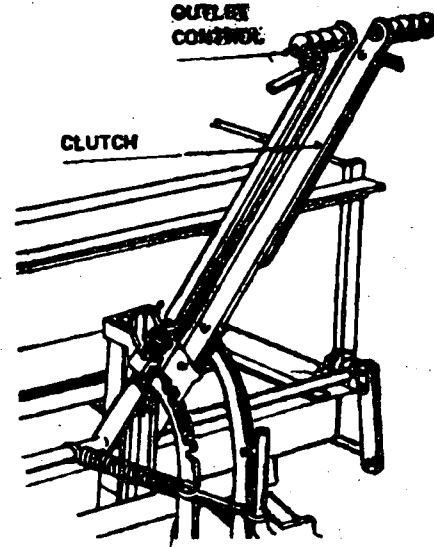

Fig. 2
- b) The lever of the feeding arm (Fig. 2).